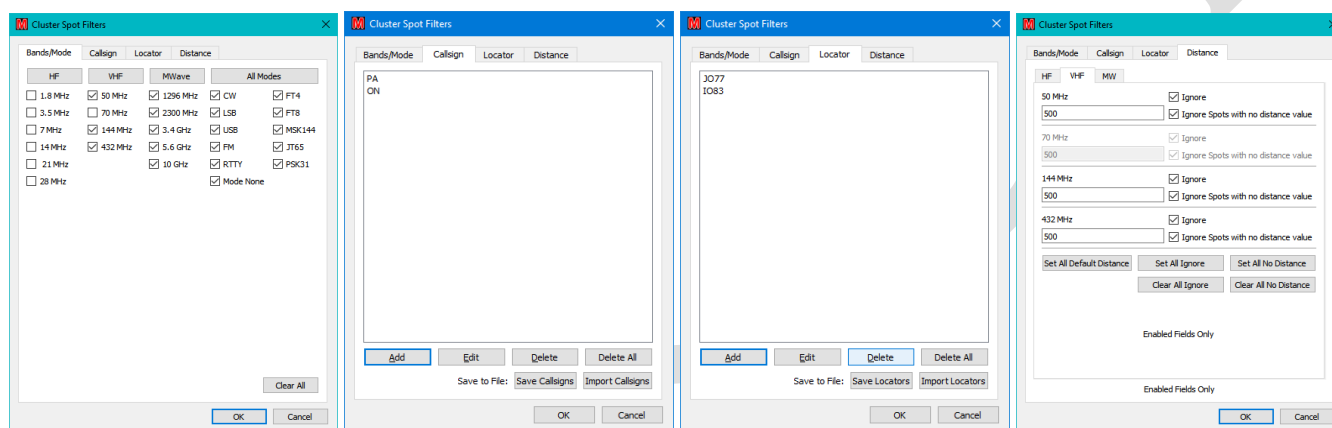

Figure 141 – Setting up filters
The content of the display can be controlled by clicking the “**Filters**” button and adjusting the Band/Mode of interest or the callsigns/locators to be watched and the distance constraints (see Figure 141).
The Distance filters further restrict the spots displayed on the basis of the specified maximum ranges¹²⁶. Note in Figure 141 (4) that the 70MHz box is disabled because 70MHz is not selected in in Figure 141 (1).